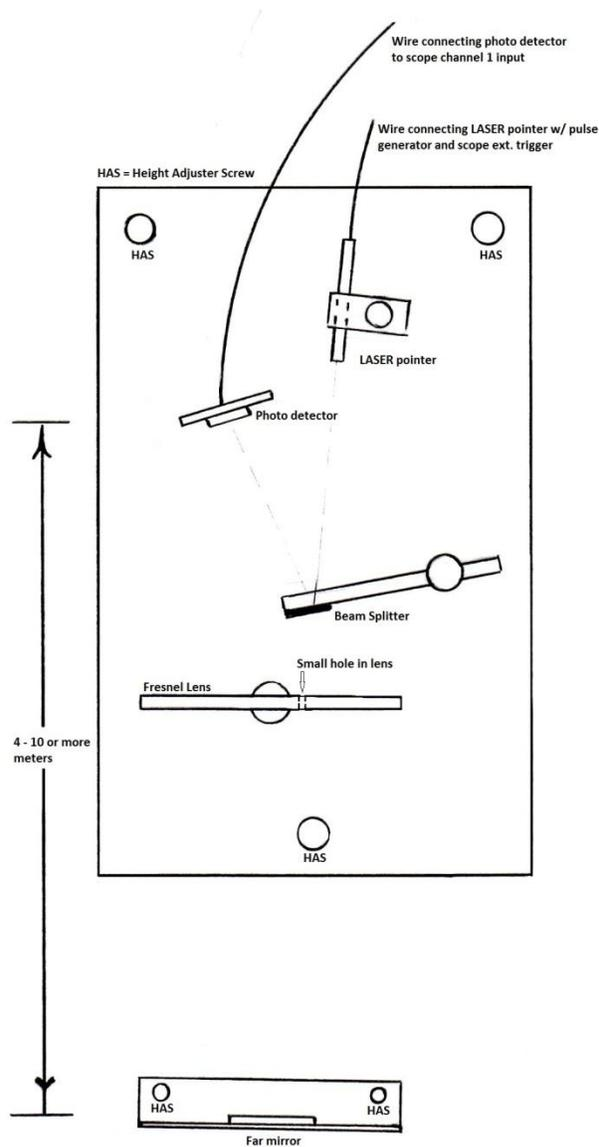

Figure 2
- Place the laser mounting rod near the back of the baseplate and the Fresnel lens near the front of the plate (see student section figure 2). Adjust the position of the laser and the Fresnel lens so the beam goes through the small hole punched near the center of the Fresnel lens
- Place the detector in line with the center of the lens, and just to the side of the laser beam as shown in student section figure 2. Make sure the laser beam is not blocked by the detector's post or its cable.
The laser, beam-splitter, Fresnel lens, and photo detector are all mounted on a large iron baseplate with magnetic bases as shown in the top view in Figure 2. This keeps the short path parts aligned with each other. The baseplate, with screws to adjust its tilt, is *set on the floor* and adjusted to aim the laser at the far mirror placed 4-10 meters away. The far mirror is then adjusted to reflect the laser beam back and into the detector. Careful alignment of the parts provides a strong signal on both light paths, and strong signals make the analysis much easier and results superior.
- The detector should be in line with the center of the Fresnel lens, and just to the side of the laser beam as shown in figure 2. Make sure the laser beam is not blocked by the detector’s post or cable.